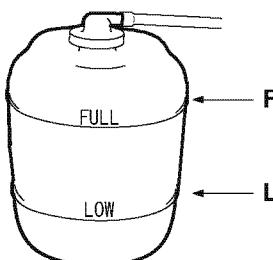

Figure 7
2. Add coolant to the coolant reservoir tank to stay within the upper or lower limit (**Figure 7**).